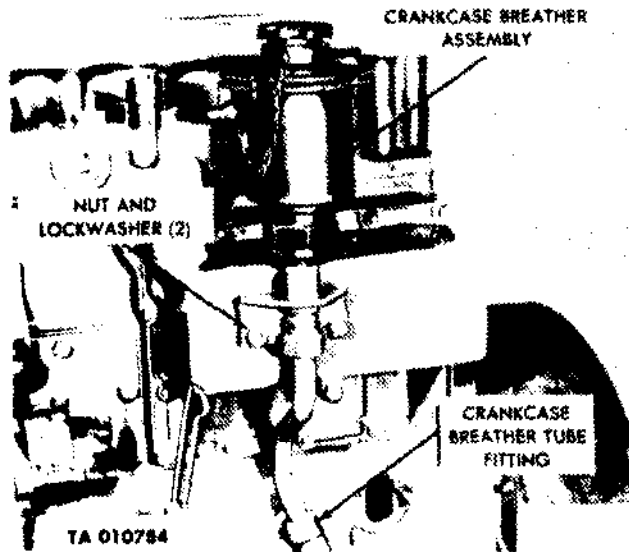

Figure 2-51. Removing crankcase breather bracket and tube assembly.
(3) Remove two nuts and lockwashers securing crankcase tube bracket to oil cooler studs (fig. 2-51).
(4) Unscrew the fitting (fig. 2-51). Remove the breather bracket and tube assembly.
(1) Secure the breather bracket and tube assembly at the fitting (fig. 2-51).
(2) Mount the tube bracket on the oil cooler studs. Retain the bracket with two lockwashers and nuts (fig. 2-51). Tighten the nuts.